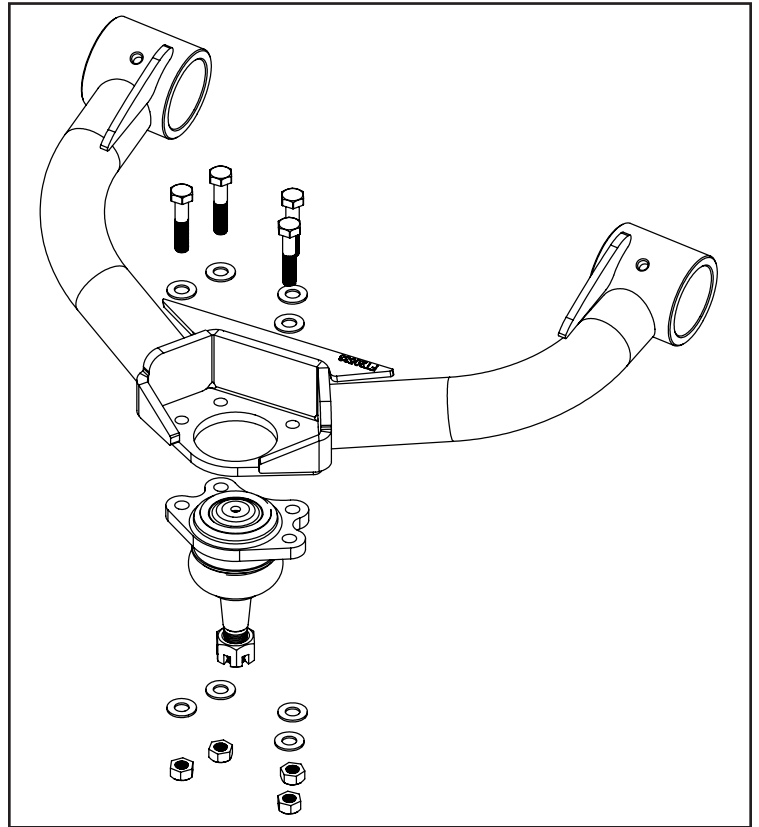

FIGURE 8 - STEP 5
10. Install FT20538 (Ball Joint) onto the new control arm using the supplied 5/16" hardware. Torque to 25 ft-lbs. **SEE FIGURE 8**